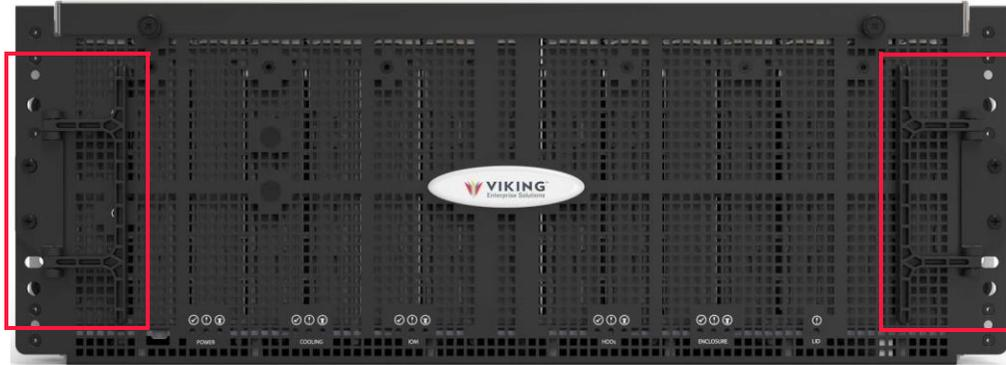

Figure 6.3 Enclosure handles
- b. Fold out and grasp the two enclosure handles (see Figure 6.3), one on each side of the front of the enclosure.